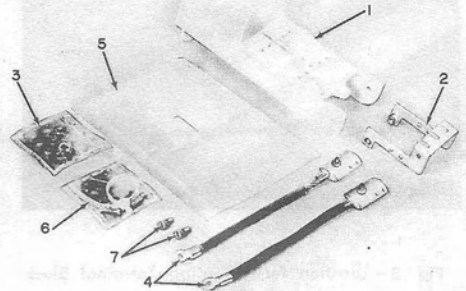

Fig. 2—D Cable Closure Rehabilitation Kit
3.01 The procedures for converting a ready-access D cable closure into a fixed count wiring configuration using a D cable closure rehabilitation kit (Fig. 2) are outlined in Steps 11 through 18.